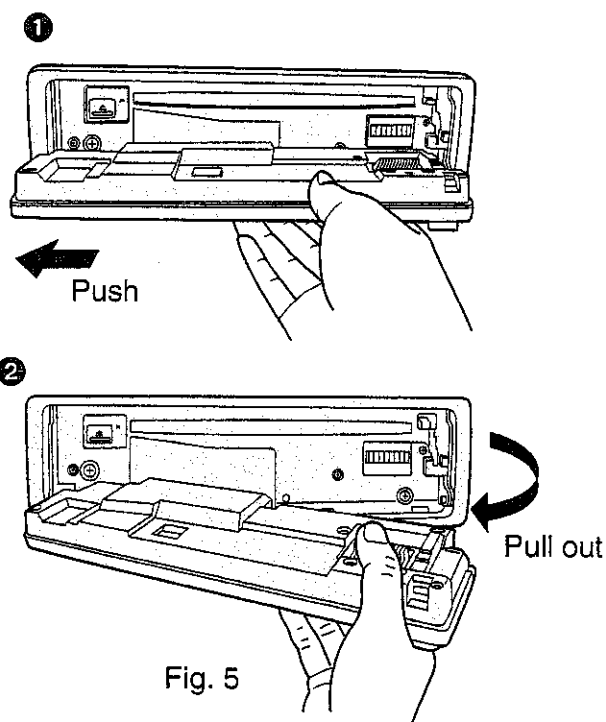

Fig. 5
- ③ Push the face plate to either the right or left, then pull it out toward you. (⇒ Fig. 5)